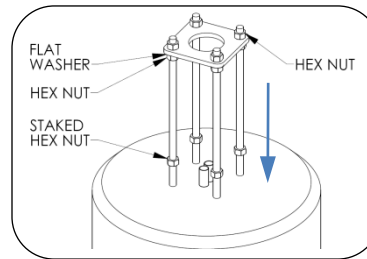

Fig. 4 - Anchor rod detail
2. Install staked anchor bolts, hex nuts, washers and wooden template as shown in Fig 4 and Fig. 5. Level template in all directions.